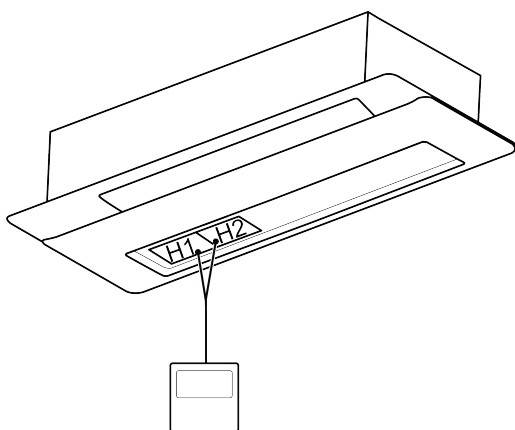
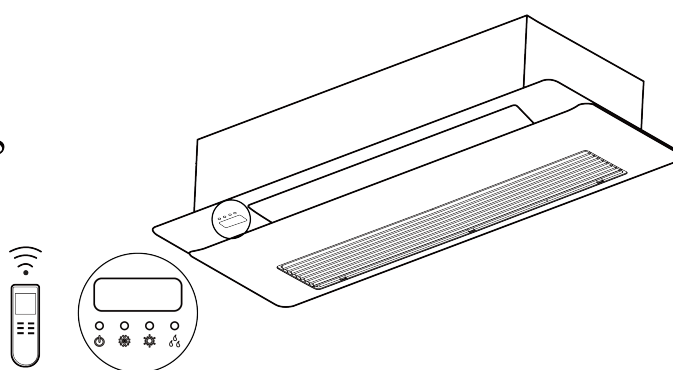

Fig.5.4.1
Fig.5.4.2
- 1) Wired controller is shown as Fig.5.4.1, wireless controller is shown as Fig.5.4.2 signal receiver is provided with panel as standard accessory.